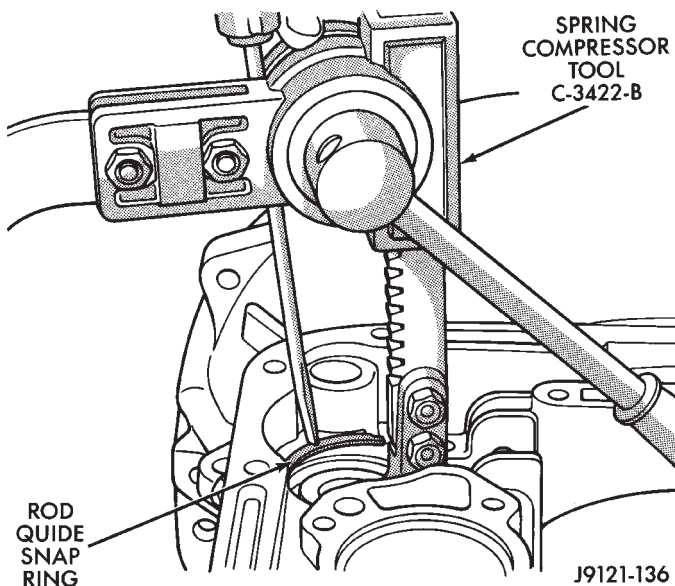

Fig. 102 Compressing Front Servo Rod Guide
(33) Compress front servo rod guide about 1/8 inch with Valve Spring Compressor C-3422-B (Fig. 102).